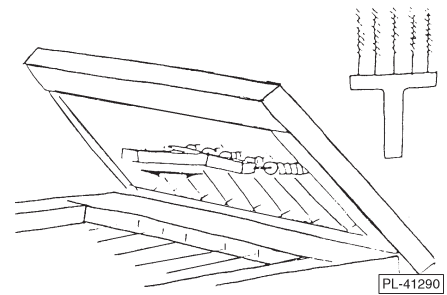

Fig. 13
- Clean and sanitize the Rear Blades (Fig. 13) using the cleaning brush provided with the machine and a sanitizing product. Place a towel under the blades to catch any drips. Tilt the Rear Blade Frame back up and re-attach it to the rear connector link with stub axle and cotter pin. Clean and sanitize the Front Blades using the cleaning brush and sanitizer. Place towel under blades to catch drips.